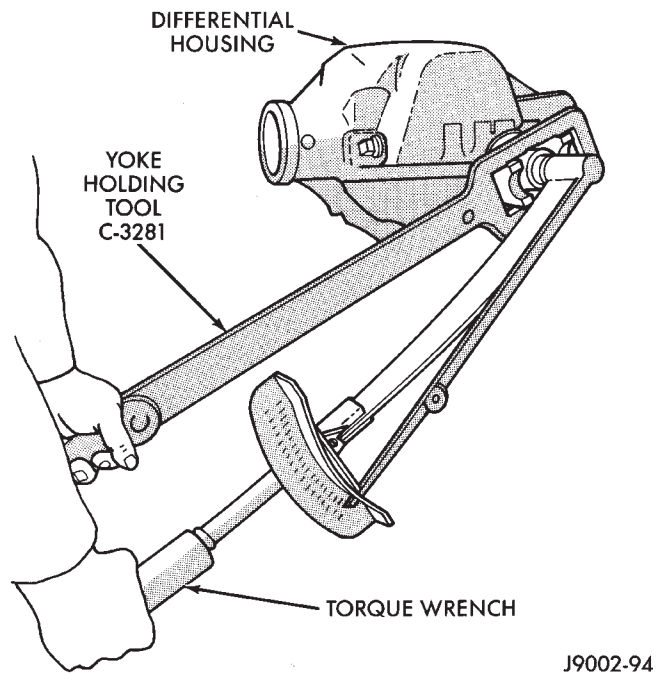

Fig. 31 Tightening Pinion Nut
(8) Use Flange Wrench C-3281 to retain the yoke (Fig. 31). Slowly tighten the nut in small increments until the rotating torque is achieved. **Measure the preload torque frequently to avoid over-tightening the nut.**